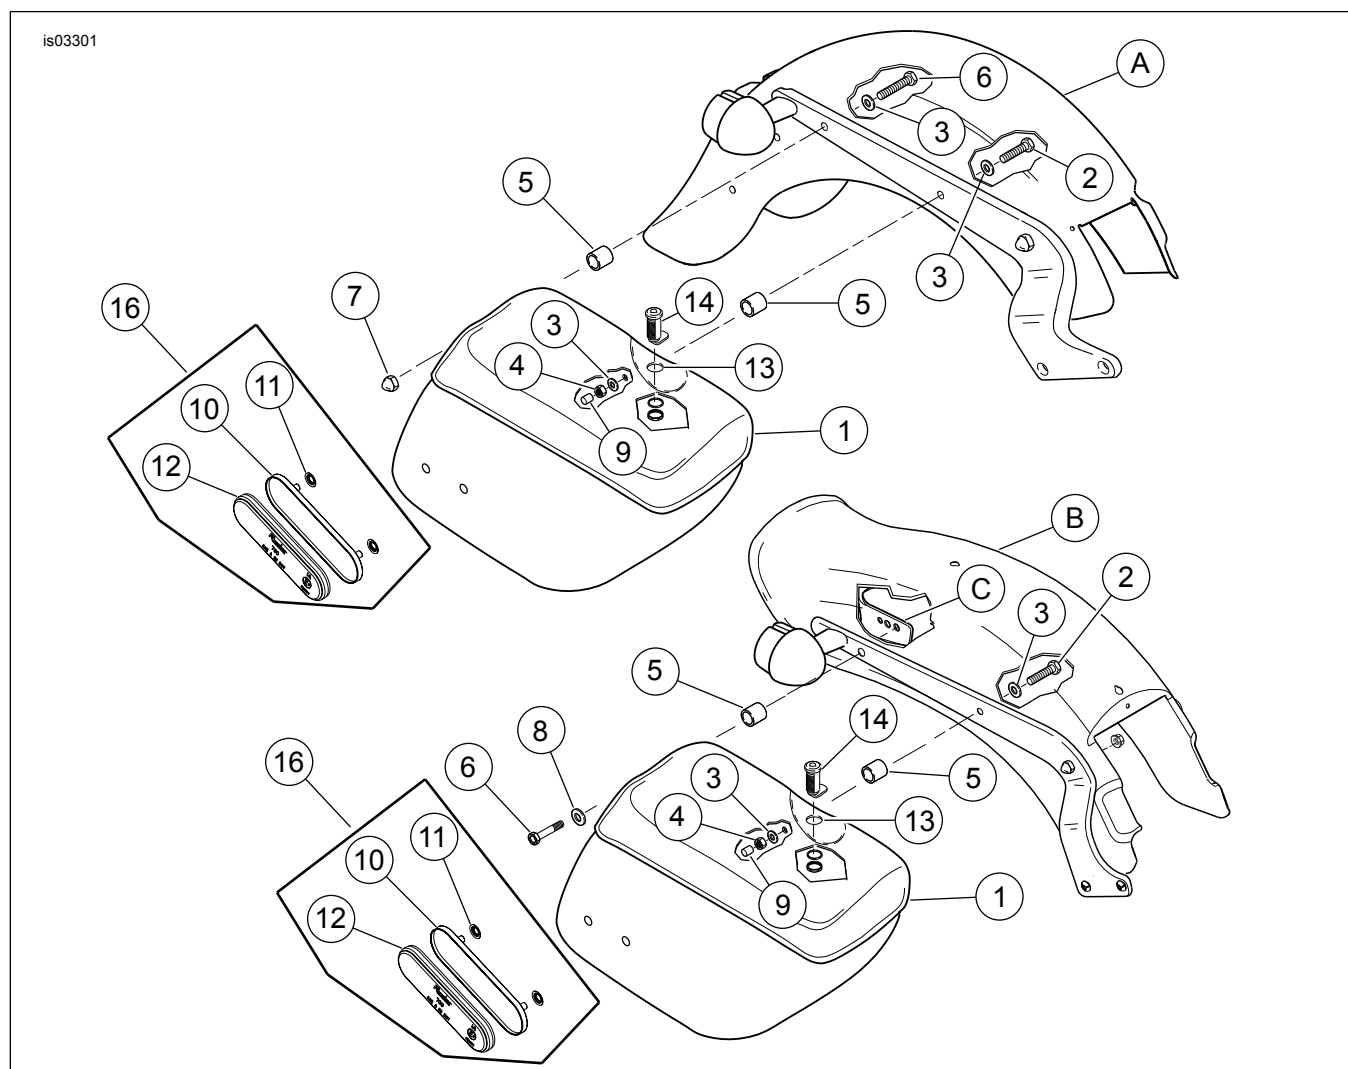
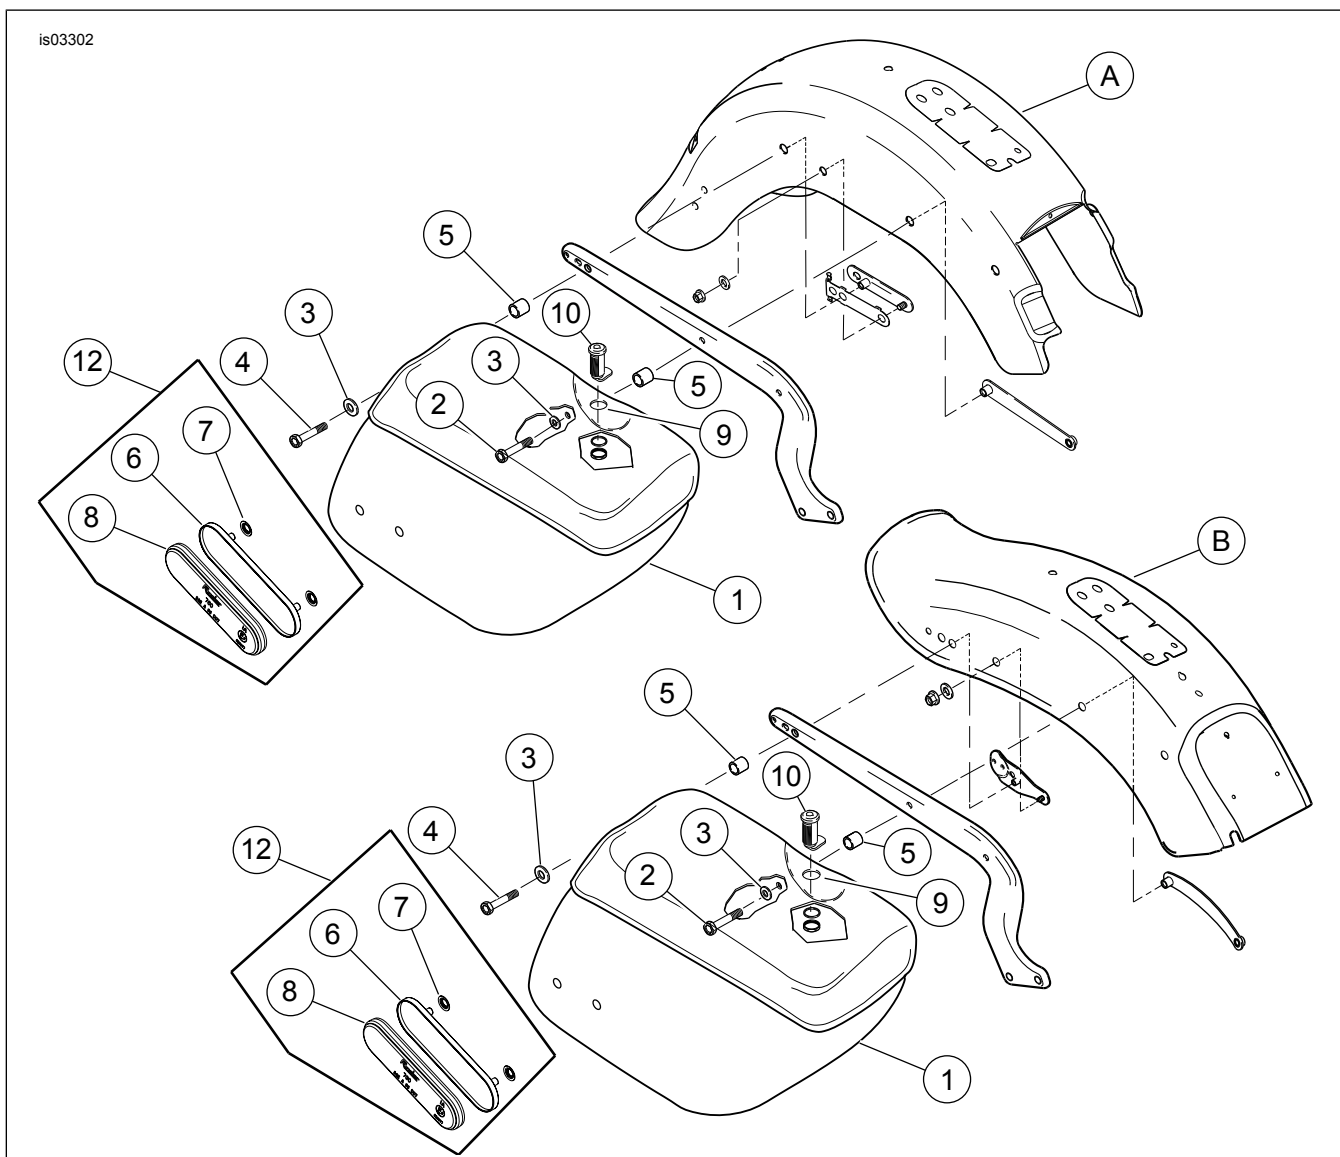

Figure 5. Service Parts: Softail Saddlebag Kit (Installation Shown on 2000-2020 FLST, FXST)
Figure 6. Service Parts: Softail Saddlebag Kit (Installation Shown on 2003-Later FLST, FXST)
2. See Figure 5. Attach front of saddlebag (1) to fender as follows:
- a. *Without Spacer Kit:* Use screw (2), washer (3) and nut (4). Hand-tighten to keep in place.
- b. *With Spacer Kit:* Use screw (2), washer (3), nut (4) and spacer (5). Hand-tighten to keep in place.
3. Attach rear of saddlebag (1) to fender as follows: **FLST models:FXST models:**
- a. *Without Spacer Kit:* Use screw (6), washer (3) and acorn nut (7). Hand-tighten to keep in place.
- b. *With Spacer Kit:* Use screw (6), washer (3), acorn nut (7) and spacer (5). Hand-tighten to keep in place.
- c. *Without Spacer Kit:* Use screw (6) and washer (8). The screw threads into the insert in the license plate bracket (A). Hand-tighten to keep in place.
- d. *With Spacer Kit:* Use screw (6), washer (8) and spacer (5). Hand-tighten to keep in place.
5. See Figure 5. Slip thread protector (9) over end of front screw (2).
2. *Without Spacer Kit:* See Figure 6. Install front and rear of saddlebag with screw (2, 4) and washer (3). Hand-tighten to keep in place. *With Spacer Kit:* Install front and rear of saddlebag with screw (2, 4), washer (3), and spacer (5). Hand-tighten to keep in place.
2. *Without Spacer Kit:* See Figure 6. Install front and rear of saddlebag with screw (2, 4) and washer (3). Hand-tighten to keep in place. *With Spacer Kit:* Install front and rear of saddlebag with screw (2, 4), washer (3) and spacer (5). Hand-tighten to keep in place.
1. See Figure 5 and Figure 6. Position reflector mount on lower right corner of saddlebag.